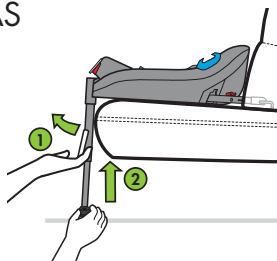

Figure 50
Adjust Load Leg to shortest position by pulling out and holding bottom of Load Leg Adjustment Handle (1) while pushing up on bottom of Load Leg (2), as shown in **Figure 50**.